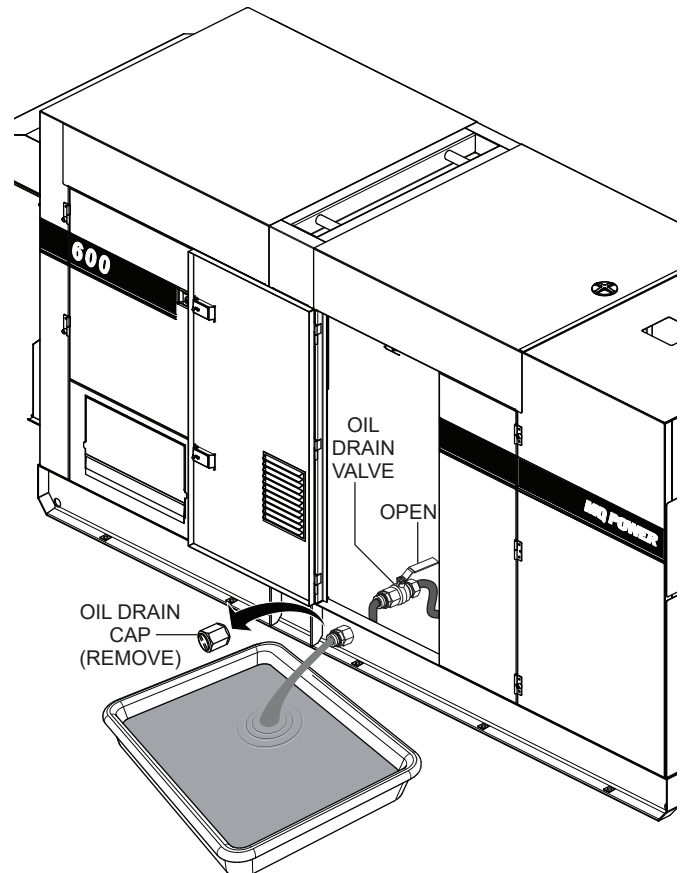

Figure 85. Draining The Engine Oil
3. Remove the **oil drain plug** (Figure 85).
4. Place the **oil drain valve** in the **OPEN** position and allow the oil to drain into a suitable container (Figure 85).